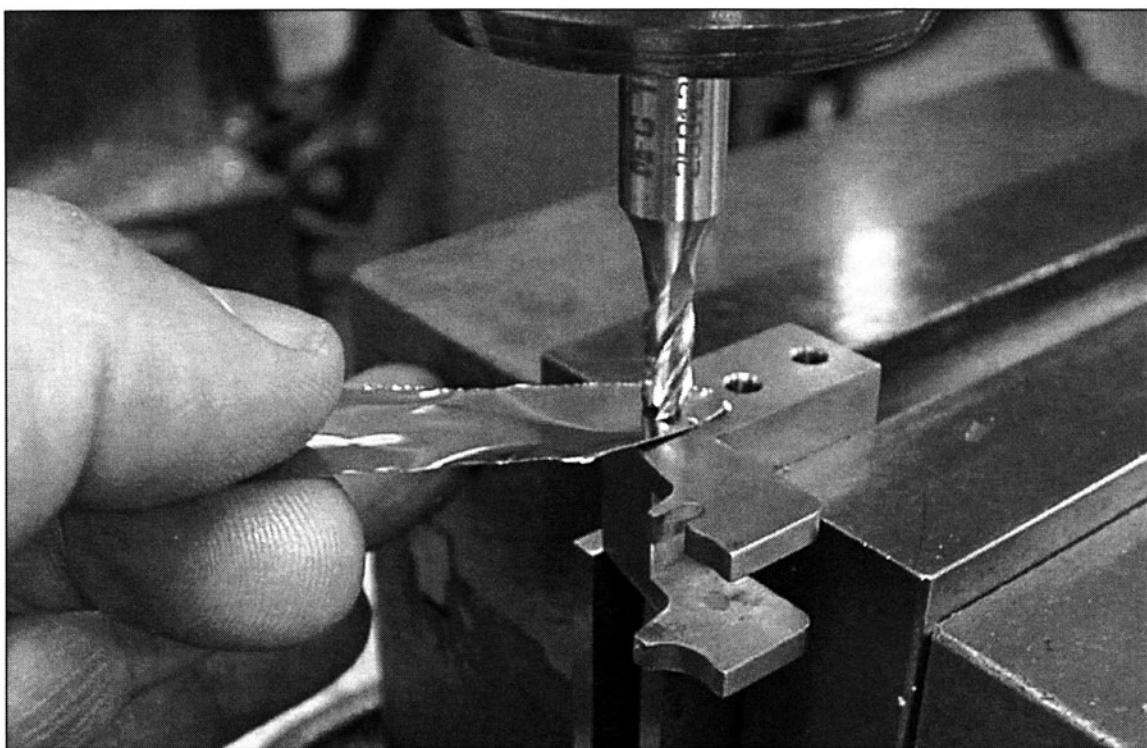

FIGURE 6-20 An end mill is set to "Z" zero using shim stock.
28. Use a .001" shim to touch off a non-rotating end mill in "Z" to avoid gouging the work-piece. (See Fig. 6-20)